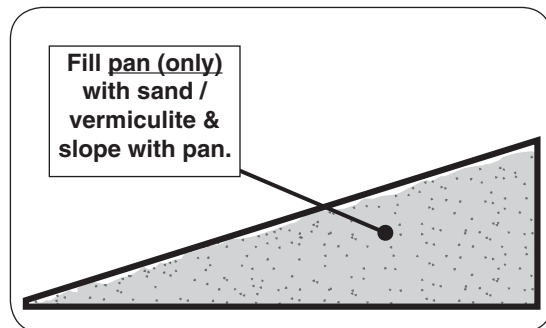

Fig. 11-2 Sand/vermiculite detail
2. Slope the sand/vermiculite at the same angle as the burner pan. This is important to ensure quiet lighting and even flame distribution. See Fig. 11-2.